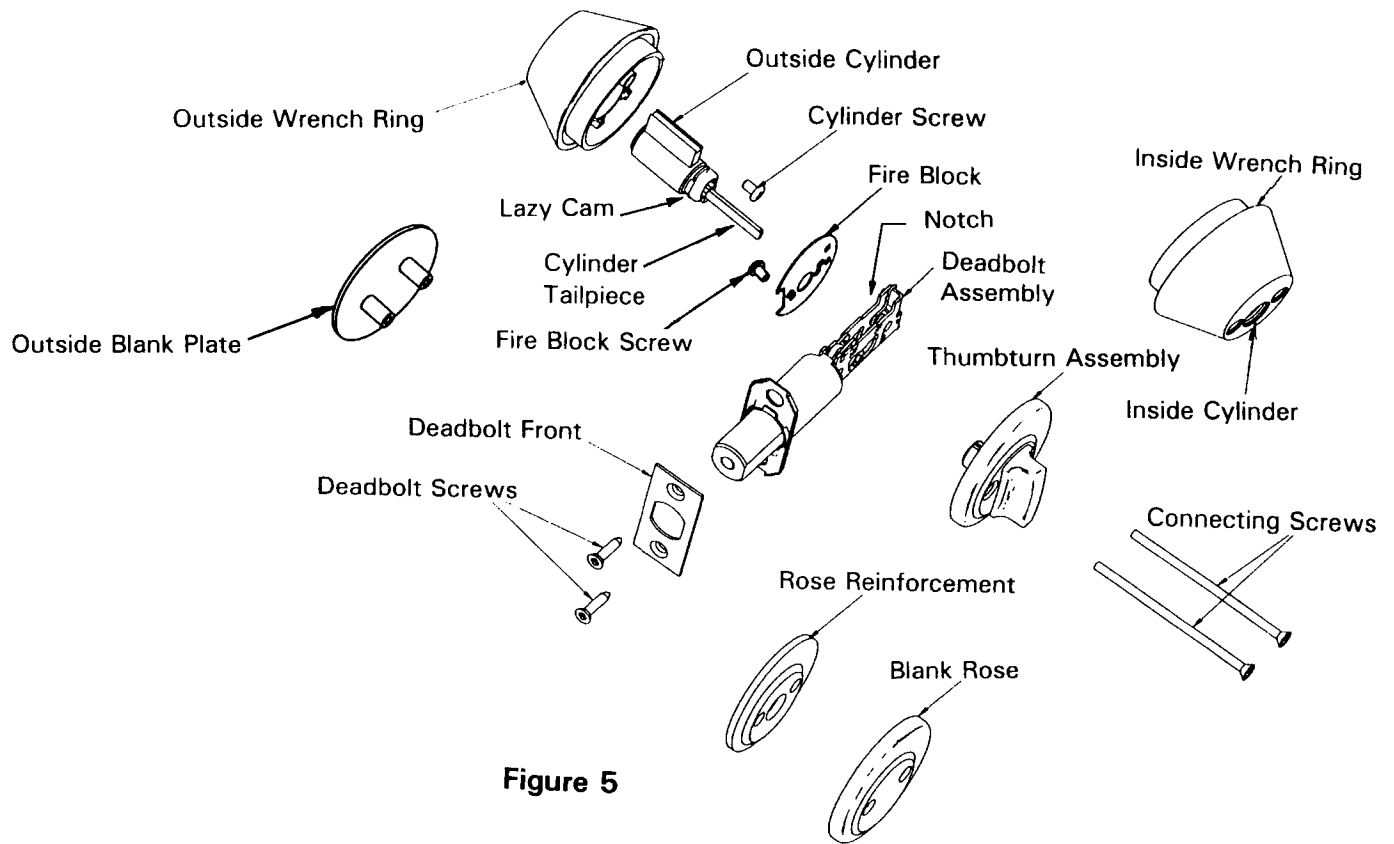

Figure 5
- a) Insert deadbolt unit into hole in door edge. (Make sure notched area is up. See Figure 5.) Fasten deadbolt to door with two attaching screws.